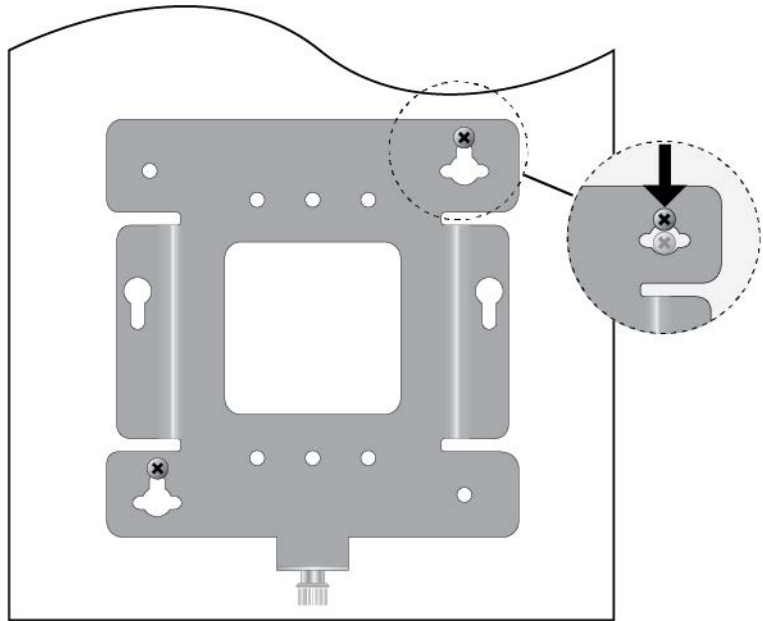

Figure 17. Installing the Mount Bracket On the Screws
6. Insert the openings of the bracket key-hole slots under the two screw heads and slide the bracket into the narrow end of the key-hole slot openings. See Figure 17.